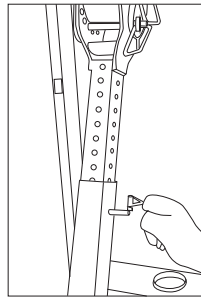

Fig 13
5. Pin Adjustable Outer Sleeve (Fig 13).